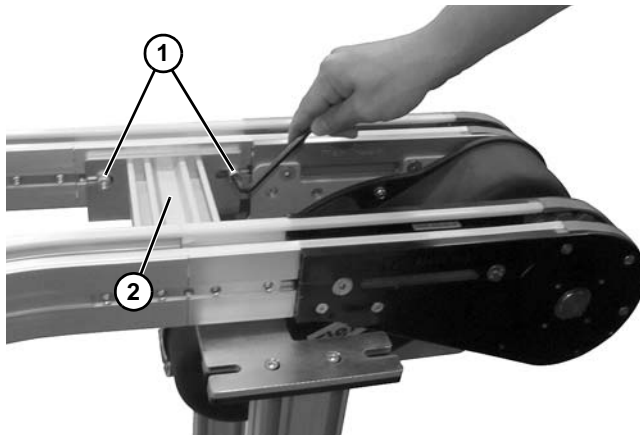

Figure 178
2. Remove two socket head screws (Figure 178, item 1) on both sides of the crossmember (Figure 178, item 2).